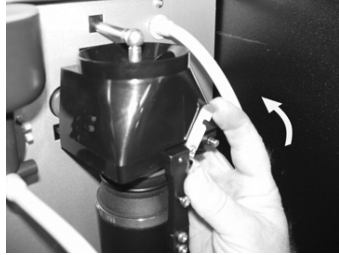
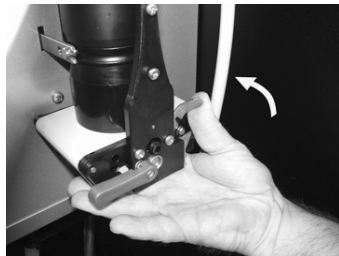

Figure 13c
Figure 13d
- **Figure 13c & Figure 13d** - Lift and release both of the carriage locking catches.